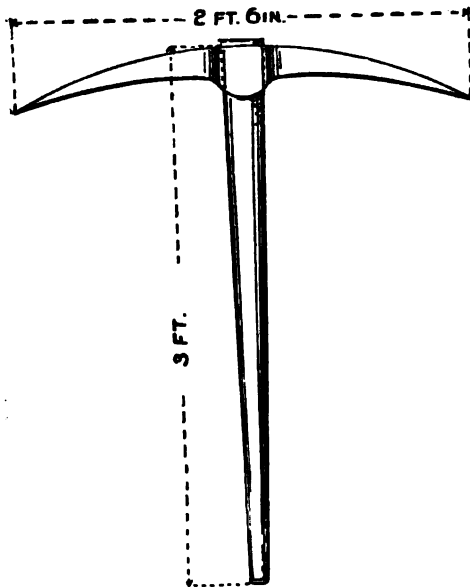

FIG. 9.—PICK.—Weight 7 lbs.
**Picks.** (Fig. 9.) The best pick is one with a solid cast steel eye which will not split with use. Such picks must be bought. If however it is necessary to make picks, they can be constructed as follows: two pieces of iron 1-2 in. × 2 in. × 12 in. with cast steel ends welded on, the two pieces welded together, and drawn out so that length over all is 2 ft. 6 in.; eye oval 2 × 3 in. and 2 1-2 in. deep. Weight about 7 lbs., and eight to ten can be produced in a day.